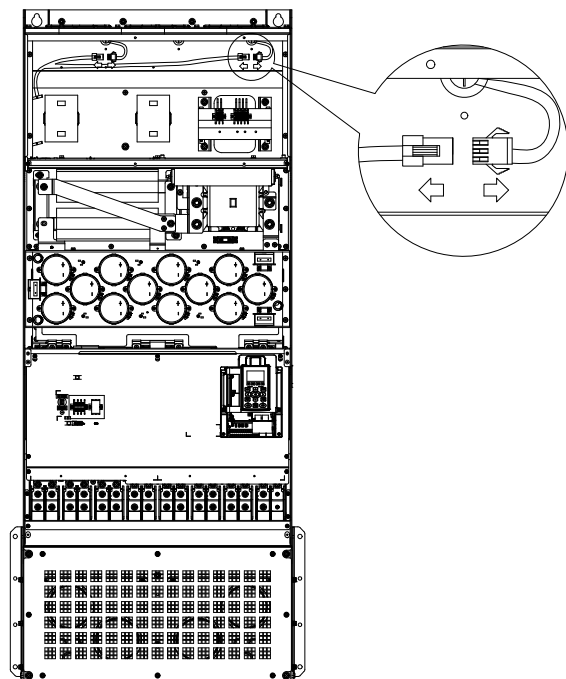

Figure 3
3. Disconnect the fan (figure 3).